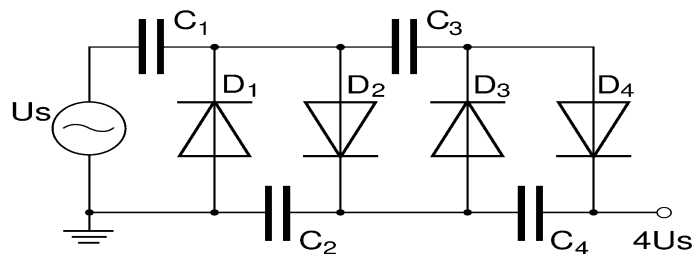

Figure 3: Voltage Multiplier example circuit
- A simple voltage multiplier can be run off of either switch node to create voltage levels appropriate for the LCD. Figure 3 is an example voltage multiplier circuit (source: Wikipedia).